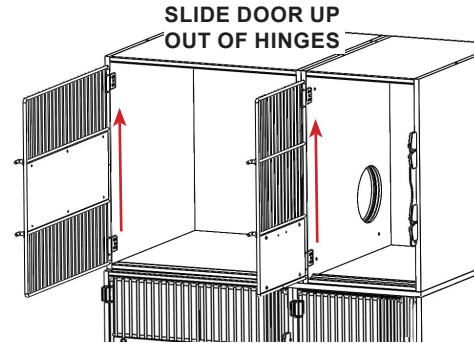

FIGURE 3.7 - Door Removal
- B:** Lift the door up, sliding the bushings out of the hinge assembly. See FIGURE 3.7